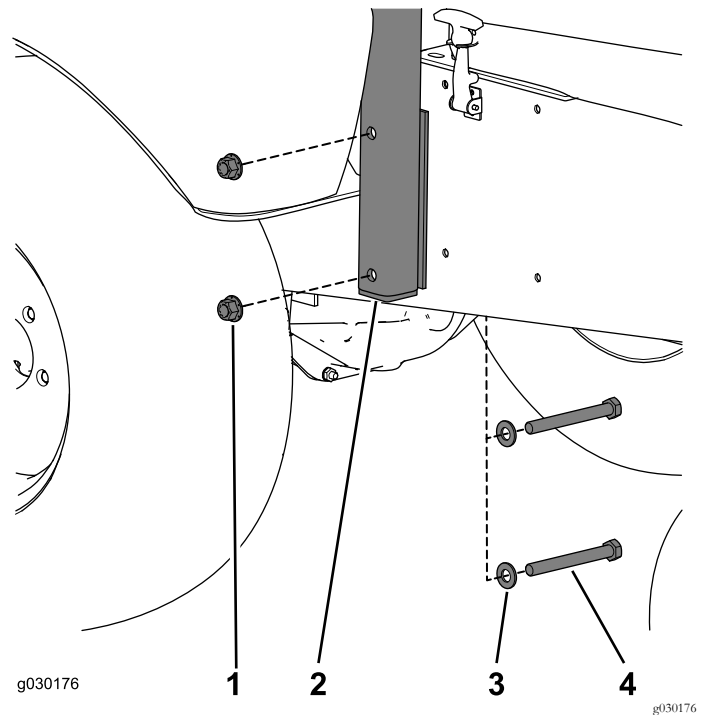

Figure 2
8. Remove the roll bar from the machine (Figure 2).